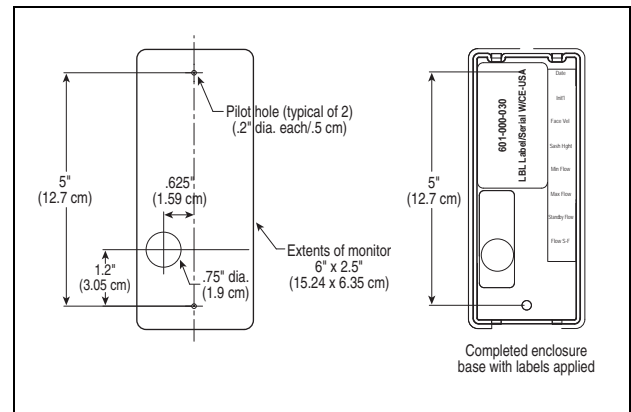

Figure 1. Fume Hood Monitor mounting template (surface mount).
4. Use the mounting template to mark the points for attaching the fume hood monitor to the fume hood (see Figure 1).